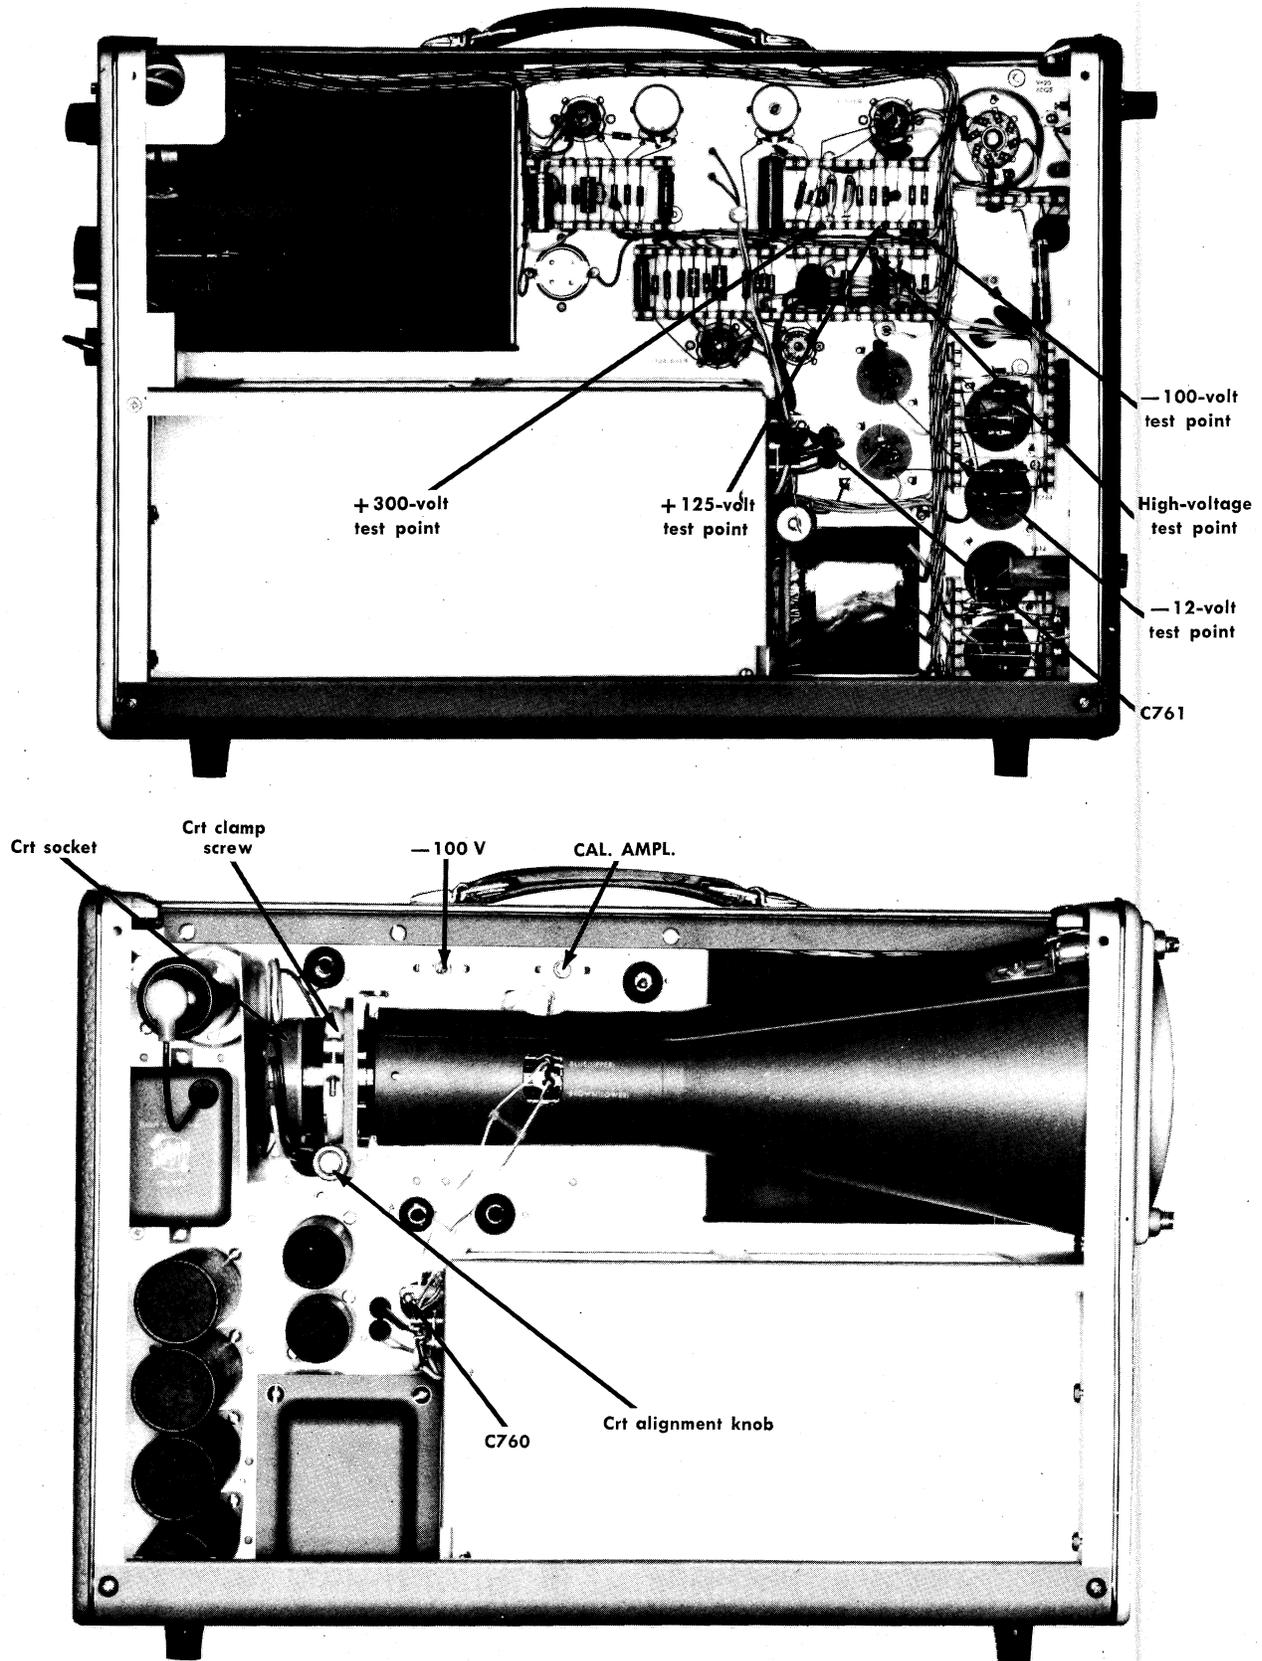

Fig. 2-1. Type 560 Indicator Unit, right and left side views.
The first step in troubleshooting the Indicator Unit is to measure the power-supply voltages, both at the outputs of the supplies (see Fig. 2-1) and at pins 10, 15, 16, and 23 of the interconnecting plugs. (Two plug-in units known to be in proper operating condition, or which have been checked for proper resistance between the interconnecting plugs and ground, should be inserted. If one of the plug-ins is a time-base unit, its TIME/DIV. switch should be set to EXT. INPUT.) Checking each of the voltages at both places will pinpoint any broken wires in the circuit. If the outputs of all of the supplies are correct (as shown on the schematic diagram), but trouble still exists in the Indicator Unit, the trouble is probably in the crt circuit, in the -3400 -volt supply, or in the crt itself. In this case, check the voltages and resistances in the crt circuit. If they are all as indicated on the crt schematic diagram, the crt is faulty and must be replaced.
With a minimum load of at least one plug-in unit, measure the output of the +300-, +125-, -12-, and -100-volt supplies at pins 10, 15, 16, and 23, respectively, of either plug-in connector. Set the -100 VOLTS adjustment (Fig. 2-1) so that all of the supplies are within the tolerances shown on the schematic diagram.
Check to see that the face of the cathode-ray tube rests snugly against the graticule. If it does not, loosen the crt clamp screw (Fig. 2-1) and move the tube forward by
If you are using a time-base unit, set it for a free-running sweep. If you are not using a time-base, apply a signal to the right-hand plug-in to produce a horizontal trace at least 10 divisions long. Position the trace directly behind the horizontal centerline of the graticule. Adjust the crt alignment knob (Fig. 2-1) as necessary to align the trace with the graticule line.
Set the CALIBRATOR switch to OFF, and set the CAL. AMPL. adjustment (Fig. 2-1) so that the voltage at the cathode (pin 7) of V884B is exactly +100 volts. Calibration of the various settings of the CALIBRATOR switch is not necessary.
7. Adjust C760 (Fig. 2-1) until the measured capacity in step 6 equals the value of C3 obtained in step 5.
9. Repeat steps 1 through 8, applying them to the right-hand opening and adjusting C761 (Fig. 2-1) instead of C760.